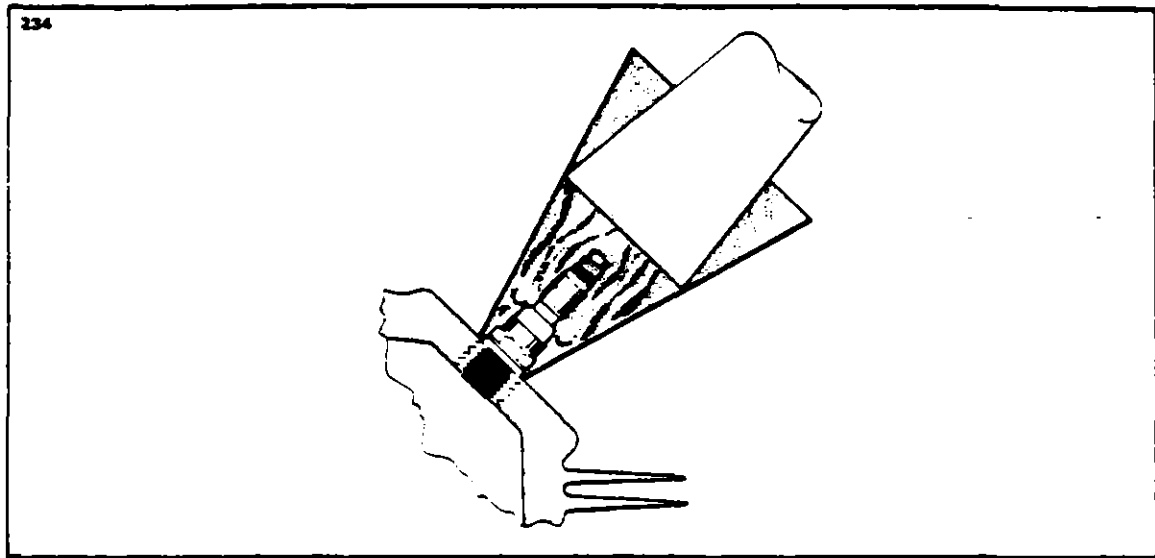

FIGURE 7B-15. REMOVAL OF SEIZED SPARK PLUG
- d. Removal of seized spark plugs in the cylinder may be accomplished by application of liquid carbon dioxide by a Conical metal funnel adapter with a hole at the apex just large enough to accommodate the funnel of a CO2 bottle. (Refer to Figure 7B-15 ) When a seized spark plug cannot be removed by normal means, the funnel adapter is placed over and around the spark plug. Place the funnel of the CO2 bottle inside the funnel adapter and release the carbon dioxide to chill and contract the spark plug. Break the spark plug loose with a wrench. A warm cylinder head at the time the carbon dioxide is applied will aid in the removal of an excessively seized plug.